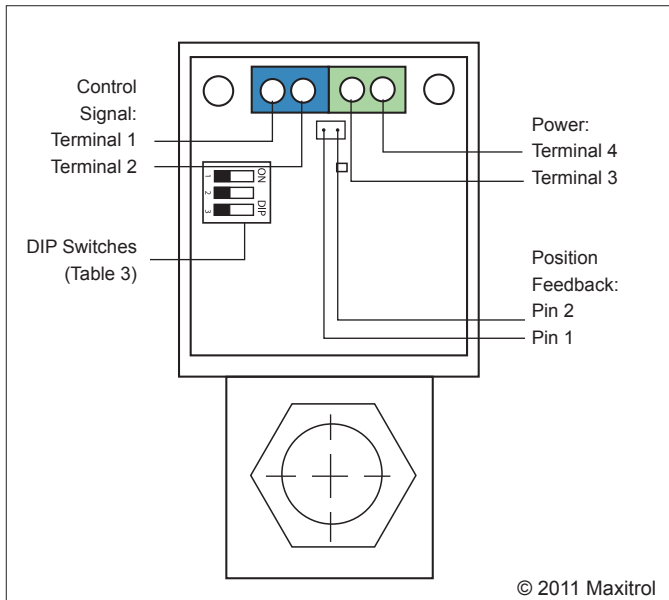

Figure 2: EXA STAR Modulating Valve Series Connections
There are six (6) electrical connections on the EXA valve. Two (2) are for power, two (2) are for the control signal, and two (2) are for position feedback (see Figure 2).
A three (3) position DIP switch is located on the PCB (see Figure 2). Change the signal type and offset by changing the position of DIP switches. (For DIP switch position and corresponding current/voltage ranges, see Table 3).
(see Figure 2)
- Step 2: Connect switched OFF 24V (AC/DC) power source to terminals 3 and 4 (see Figure 2, page 2).
- Step 4: Connect switched OFF control signal to terminals 1 and 2. Observe polarity. Note that the return, or signal ground, must be connected to terminal 2 (see Figure 2, page 2).